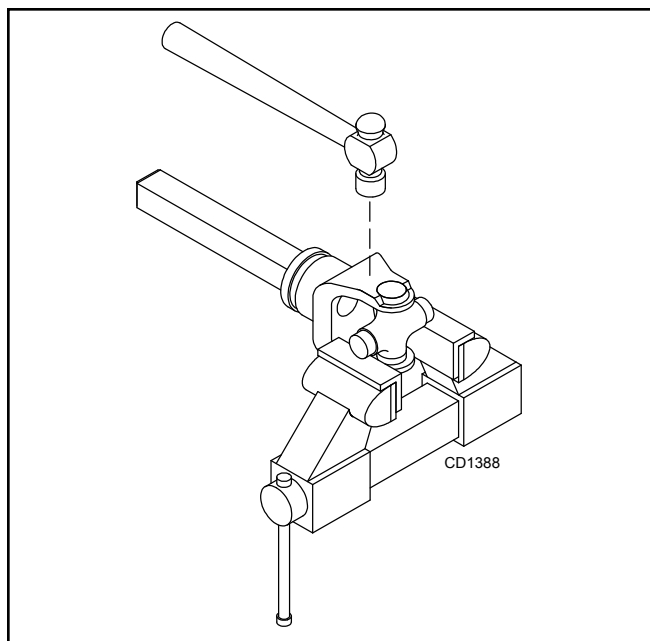

Figure 20.
4. Place universal cross in vise as shown in Figure 20 and tap on yoke to remove cup. Repeat Step 3 for final removal. Drive remaining cup out with a drift and hammer.